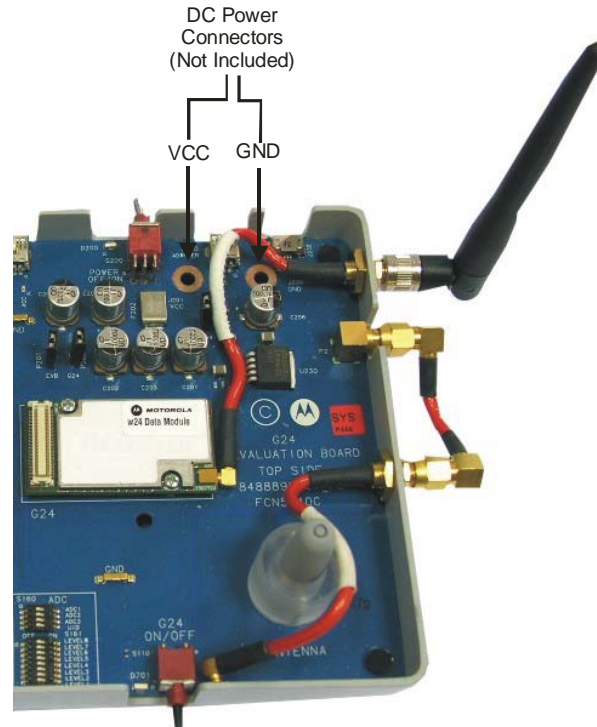

Figure 2-8: DC Input Connectors
2. Attach the DC input connectors to the Developer Board (Figure 2-8).